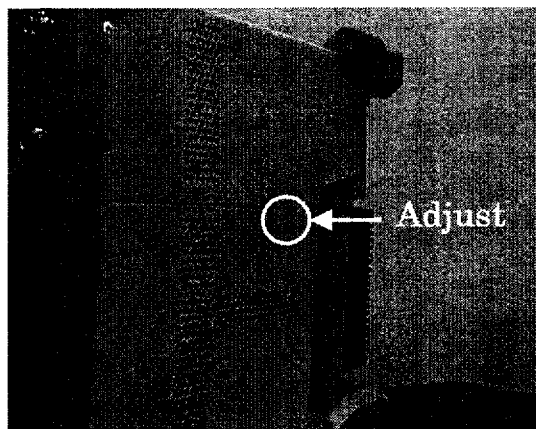

Figure 4-2 Location of Potentiometer
4. While monitoring frequency counter reading, adjust a potentiometer to meet specification. Location of potentiometer is shown in Figure 4-2.